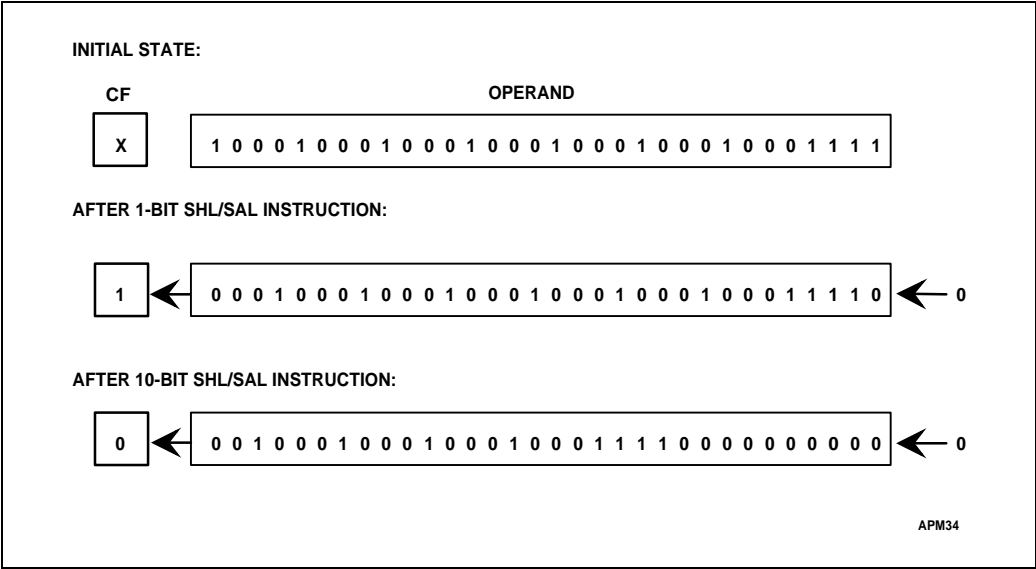

Figure 4-6. SHL/SAL Instruction
**SAL (Shift Arithmetic Left)** shifts the destination byte, word, or doubleword operand left by one bit position or by the number of bits specified in the count operand (an immediate value or a value contained in the CL register). Empty bit positions are cleared. See Figure 4-6.